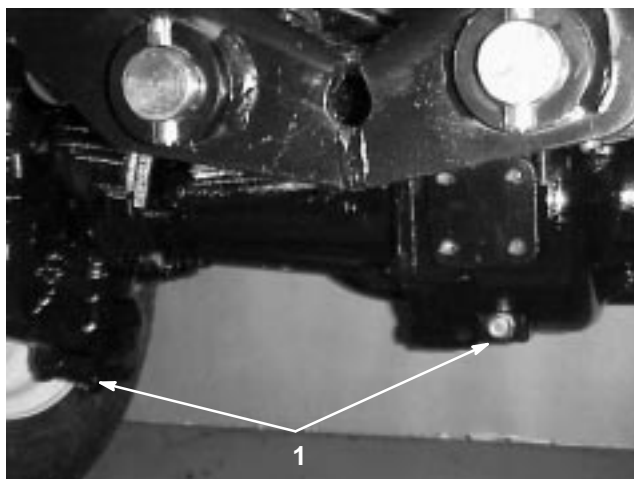

Figure 72
2. Clean the area around the 3 drain plugs, 1 on each end and 1 in the center (Fig. 72).